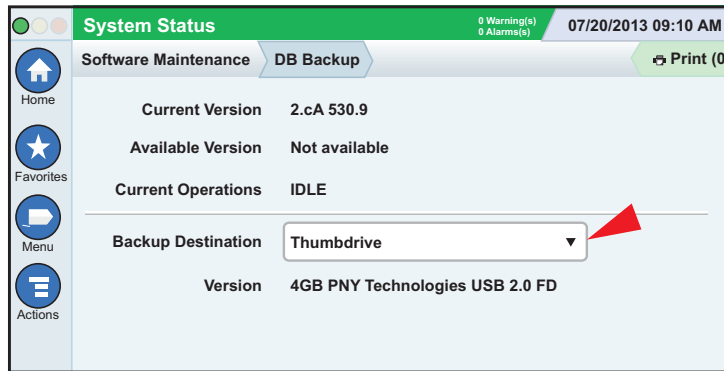

Figure 2. DB Backup Screen
2. As a precaution, prior to replacing system modules perform a DB Backup. From the Home Screen touch **Menu > Software Maintenance > DB Backup** to view the Database Backup Screen (see Figure 2). Touch the down arrow in the Backup Destination field to select the Backup thumb drive inserted in Step 1, then follow the on-screen instructions to backup TLS-450PLUS console data.